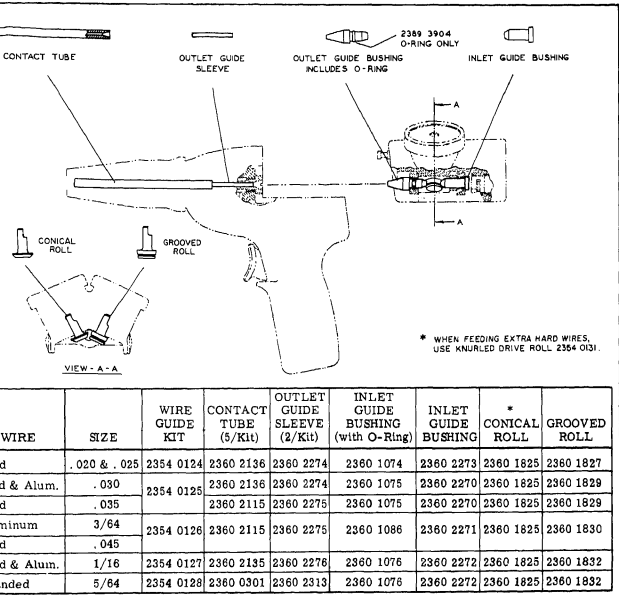

Figure 8. Wire Guide Fittings
Items required to adapt the Gun for any particular job are called accessories. These include contact tubes, inlet and outlet guide bushings, and drive rolls to suit the type and size of welding wire used, as shown in Figure 8 of Section II.
Install wire guide fittings (Fig. 8) in drive roll housing as follows:
i. Slip drive roll outlet guide bushing (Fig. 8 ) r protruding wire and seat in crossbar opening.